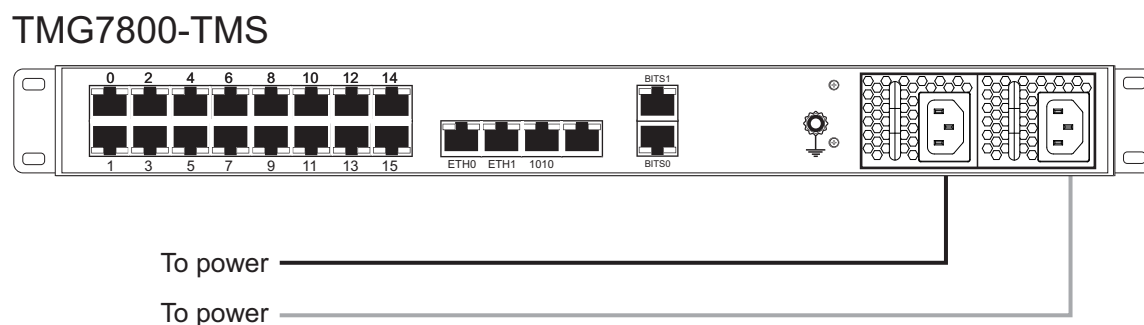

Figure 5.3 7800-TMS AC Power Connections
1. Connect an AC power cable between the AC connector of the 7800-TMS and an AC supply. See figure 5.3 on page 45.